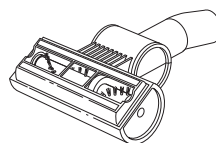

Fig. 31
- 3 Turn the power brush over to inspect the rotating brush and cut away any build-up of hair or string wrapped around the rotating bristle brush with scissors. (Fig. 31)